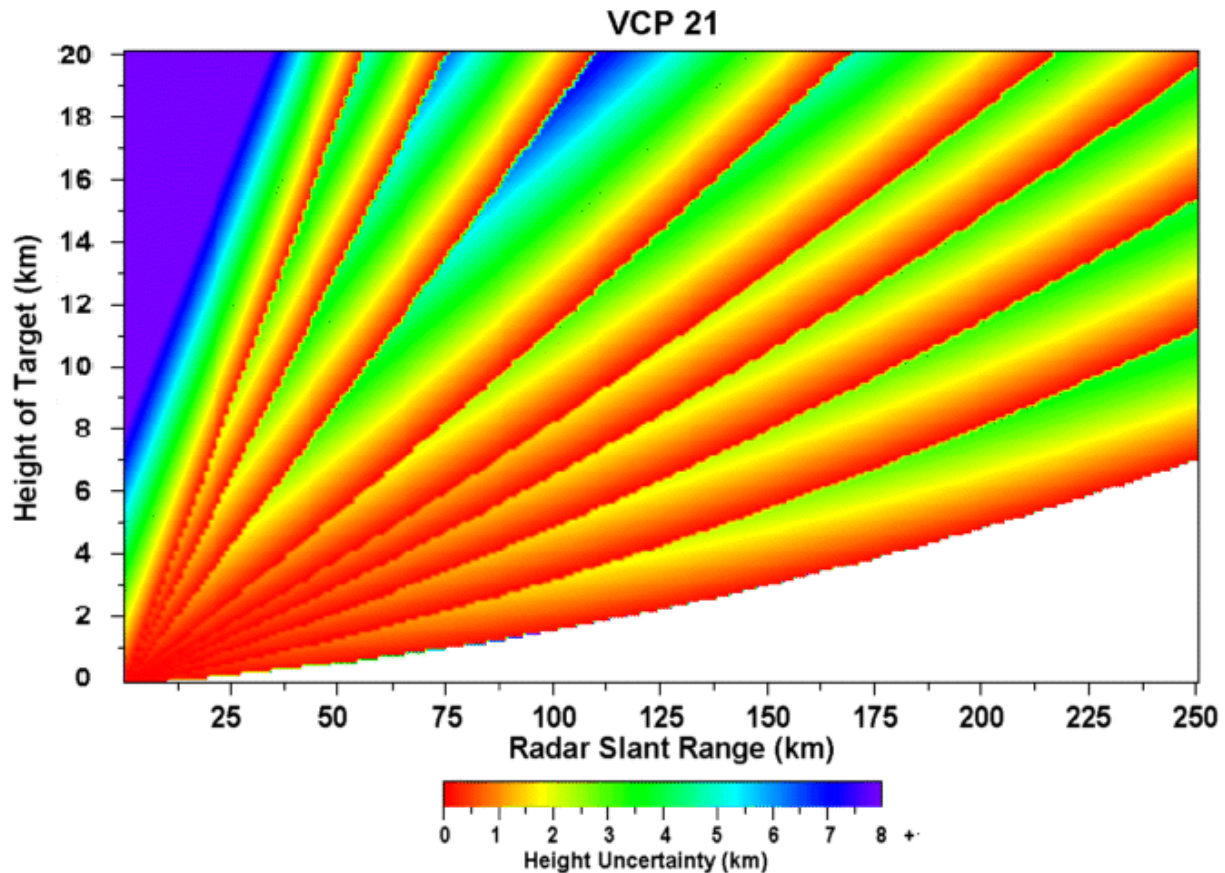

Figure 3-23. Height uncertainty as related to elevation angle.
5. Difficult to locate the highest echo top in a storm due to lack of upward vertical extrapolation, and heights are displayed in 5000 ft increments. (See Fig. 3-23 on page 66.)